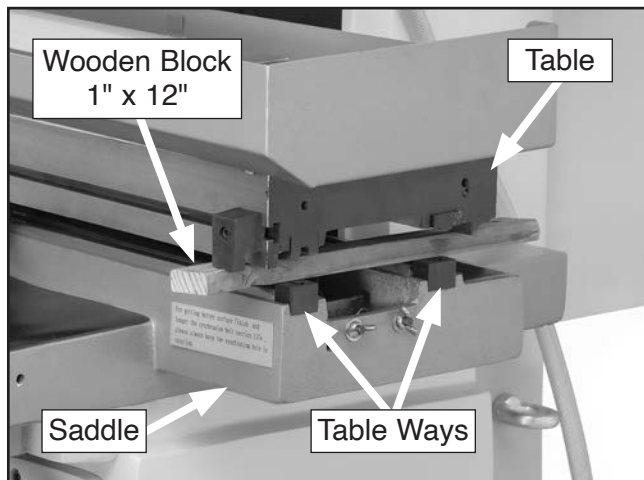

Figure 29. Table supported with wooden block.
4. With assistance, lift right side of table and place (1) 1" x 12" wood block perpendicular to table ways (see **Figure 29**). Table must be centered on saddle.